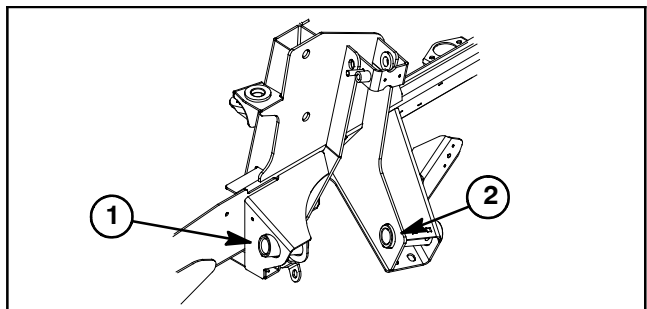

Figure 7
NOTE: Allowable clearance between lift arm pivot shaft (item 8) and front frame bore (Fig. 7) is up to 0.025" (0.64 mm). Allowable clearance between lift arm pivot shaft and rear frame bore is up to 0.070" (1.78 mm).